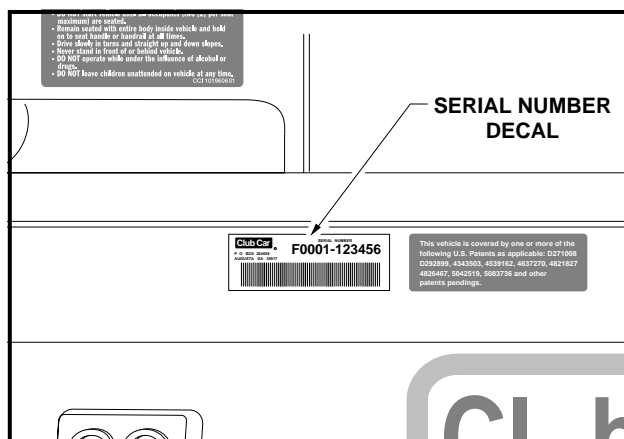
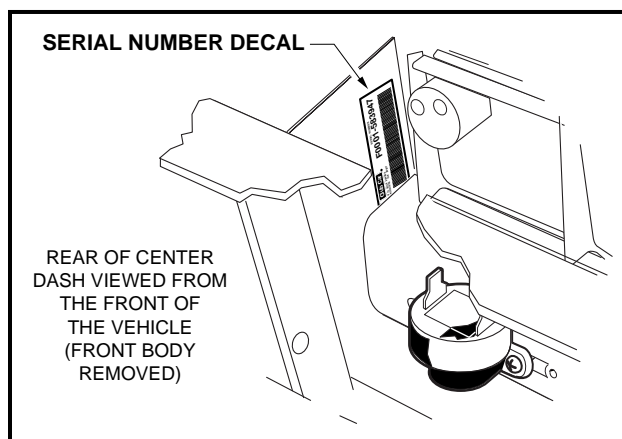

Figure 3-1 Serial Number Decal
Figure 3-2 Serial Number Decal Behind Dash
The serial number of the vehicle is printed on a bar code decal mounted on the frame directly above the accelerator pedal (Example: F0001-123456 for Electric or FG0001-123456 for Gasoline) (**Figure 3-1, Page 3-1**). There is a second serial number decal mounted on the front body frame behind the center dash panel. The center dash panel must be removed to view this number (**Figure 3-2, Page 3-1**).
- ALWAYS HAVE THE VEHICLE SERIAL NUMBER AT HAND WHEN ORDERING PARTS OR MAKING INQUIRIES (**FIGURE 3-1, PAGE 3-1**).